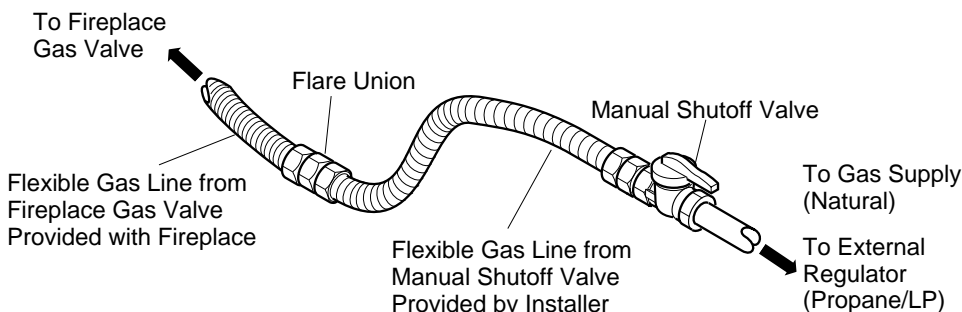

Figure 27 - Attaching Flexible Gas Lines Together
3. Attach a 45° flare union gas connector to flexible gas line from gas supply (see Figure 27). Connect flare union to flexible gas line attached to gas regulator of fireplace (see Figure 27).